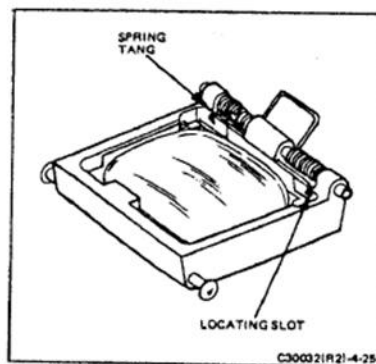

FIGURE 4-25 EYELENS TORSION SPRING
- b. Locate the two spring ends in the housing as shown in Figure 4-25.